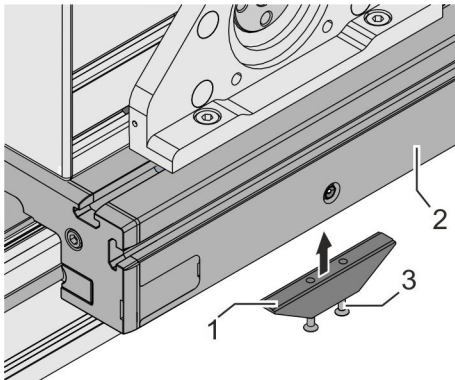

Fig. 37: Assembling the actuator
- Place the actuator (Fig. 37/1) at the height of the holes below the guide carriage (Fig. 37/2).
- Tighten 2 screws (Fig. 37/3):